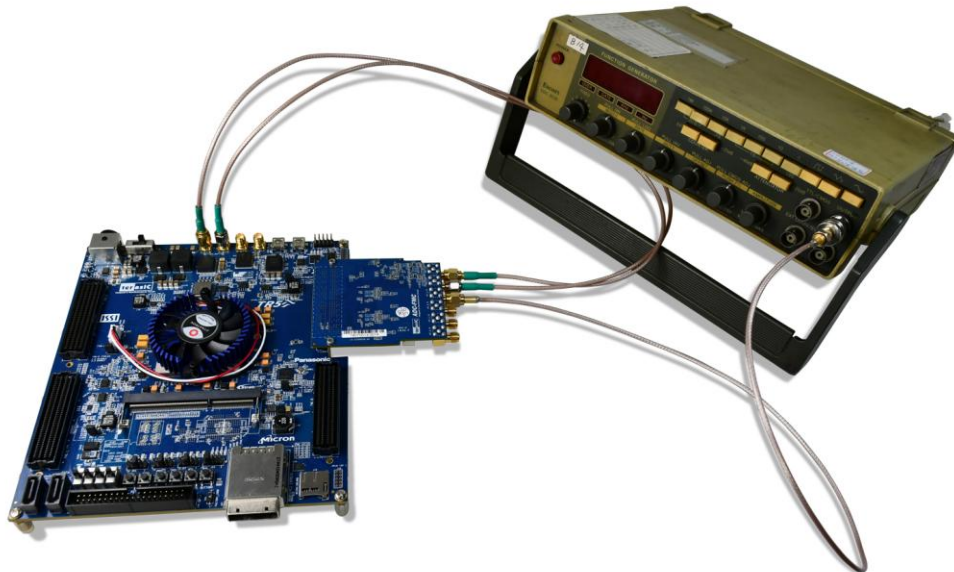

Figure 4-2 Hardware setup of ADC-FMC with TR5
Figure 4-2 shows the demo setup of ADC-FMC with TR5 mainboard. The ADC-FMC should be installed on the FMC-A expansion header of the TR5. Adjust the VADJ of MFC-A connector to be 1.8V.
2. Make sure the ADC-FMC is installed as shown in **Figure 4-2**. The signals to be measured can generate from Analog signal generator. Users can connect the output port of the